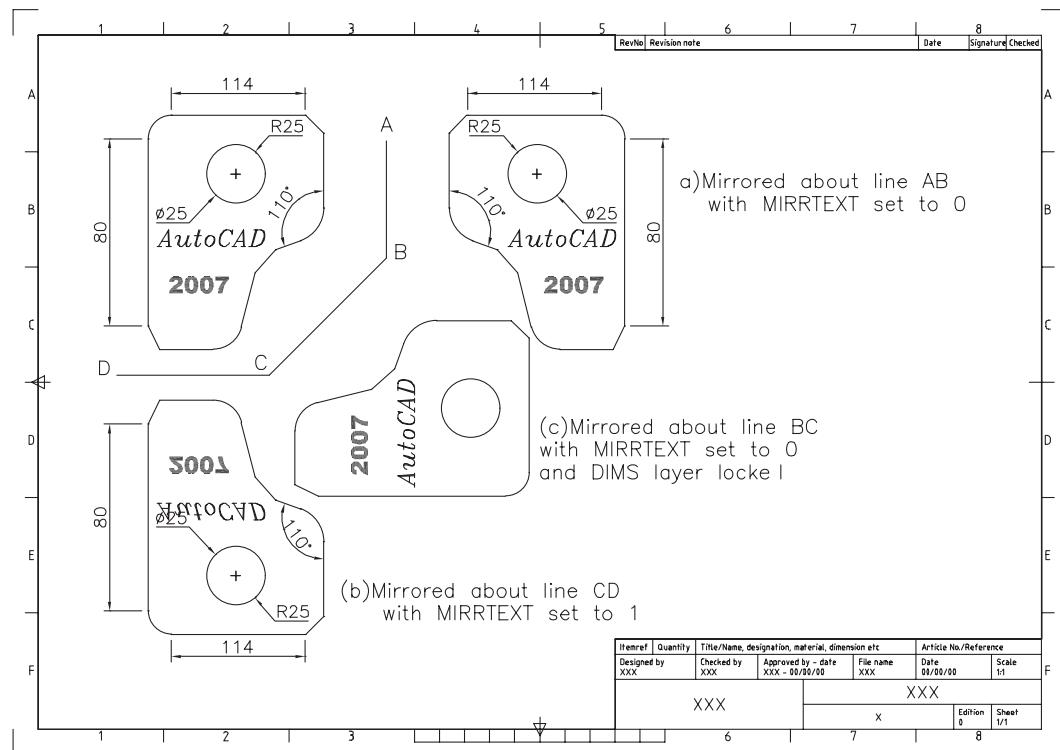

Figure 15.5 WORKDRG after the SCALE and MIRROR commands.
- 8 The complete shape will be scaled as Figure 15.5.
- Refer to Figure 15.5 and with layer OUT current, draw the following three line segments:
7 The selected objects are mirrored about the line AB as Figure 15.5(a). The dimensions may surprise the user?
10 The shape is mirrored as Figure 15.5(b). What about the text and dimensions?
13 This mirror command is displayed as Figure 15.5(c) and the final result should be similar Figure 15.5.